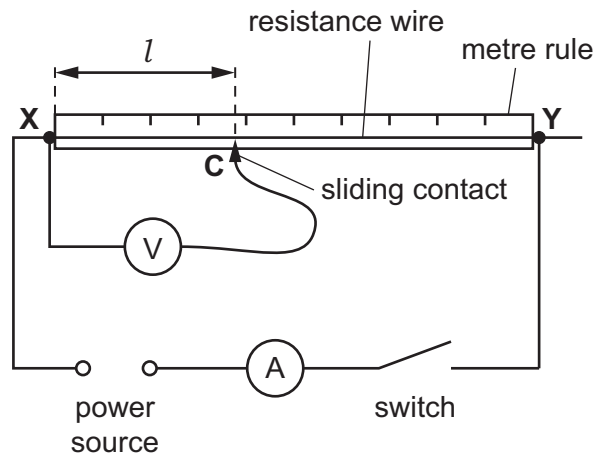

Fig. 3.1
1. The circuit shown in Fig. 3.1 must be set up for candidates.